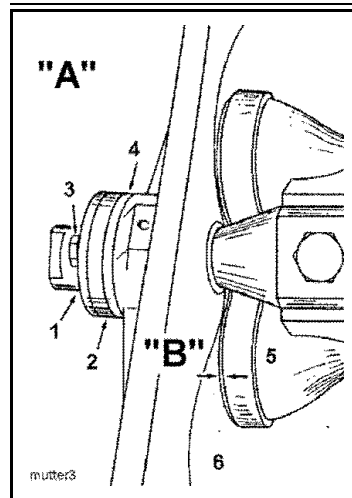
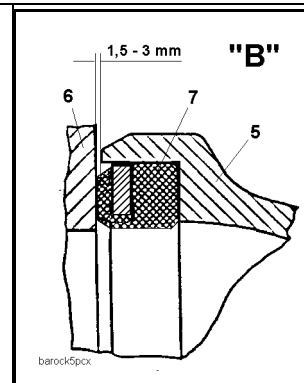

Fig. 331
Fig. 332
A	See detailed view (Fig. 331)
B	See detailed view (Fig. 332)
No air gap may be visible between the bearing bushing (4), the locking wheel (2) and the adjusting nut (1) (Fig. 331), even during operation.
There must be a measurable distance of distance of 1.5 to 3.0 mm between the swivel head (rock) (5) and housing lining (6) while the kidney seal (7) is in contact with the housing lining (6) (Fig. 332).
Caption for (Fig. 331) and (Fig. 332)
- Remove safety screw (3) (Fig. 331) together with disc.
- Set distance "B" = 1.5 to 3.0 mm using the adjusting nut (1).
- Align the bore in the collar of the adjusting nut with the nearest threaded bore in the locking disc (2) (rotate the nut forward or backward).
- Attach safety screw (3) with disc.